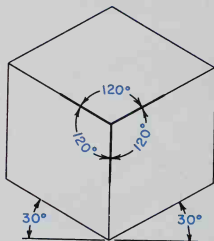
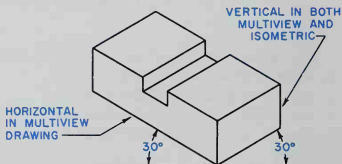
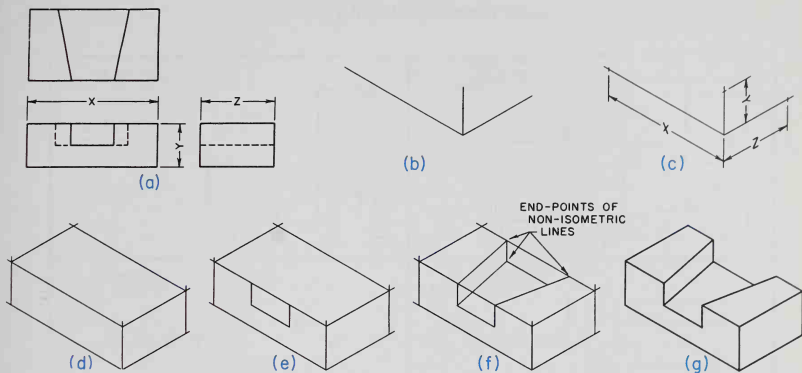

Fig. 8-1. Isometric axes.
Fig. 8-2. Horizontal and vertical lines in isometric.
Fig. 8-3. Steps in constructing an isometric drawing.
ISO- is a prefix meaning EQUAL and METRIC means MEASURE, hence ISOMETRIC means EQUAL MEASURE. It means the object is positioned (revolved and tilted) so that the measurement in all three directions (height, width and depth) are made with the same scale, Fig. 8-1. The dark lines in Fig. 8-1 and all lines parallel to these lines are known as isometric lines. Horizontal lines in multiview drawings become 30° lines in the isometric view, Fig. 8-2.
Vertical lines in multiviews remain vertical in the isometric view, Fig. 8-2. Let's see how an isometric drawing of the slotted block, Fig. 8-3 (a), is constructed.
2. Start by laying out the axes for the lower corner, Fig. 8-3 (b).
3. Make over-all measurements in their true length on the isometric axes or lines parallel to the axes. Fig. 8-3 (c).
4. Construct a "box" to enclose the object, Fig. 8-3 (d).
5. Draw isometric lines of the object, Fig. 8-3 (e).
6. Draw non-isometric lines (lines which are neither horizontal nor vertical in the multiview projection) by first locating the end points of these lines and then connecting the points by use of a straightedge, Fig. 8-3 (f).
8. Darken all object lines to complete the isometric drawing, Fig. 8-3 (g).